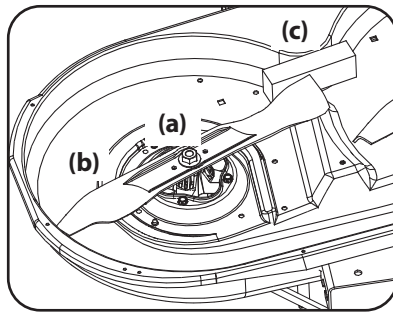

Figure 1
2. Use a 15/16" wrench to hold the hex nut on top of the spindle assembly when loosening the hex nut (a) securing the blade (b). A block of wood (c) may be placed between the deck housing and the cutting edge of the blade (b) to help in breaking loose the hex nut (a) securing the blade. See Figure 1.